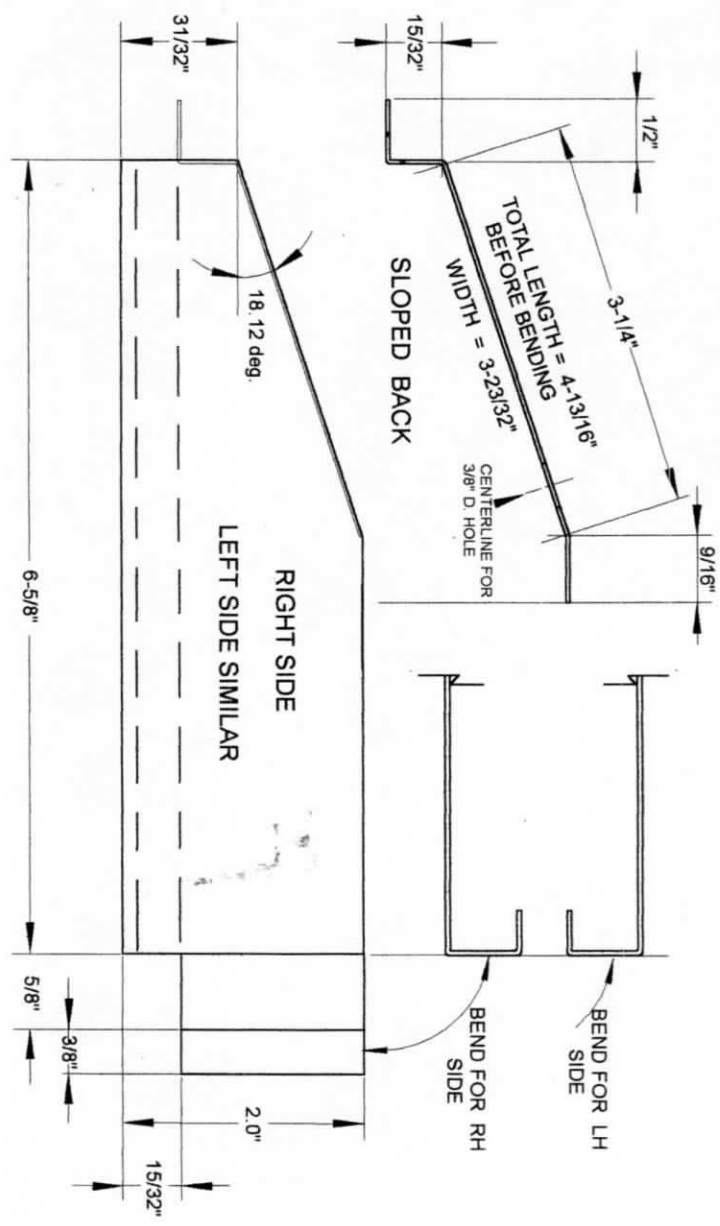

FIGURE 3
STEP 7: Make the sheet metal sides. The sheet metal sides are to be cut from 0.015" thick sheet brass. See figures 3 through 7 for layouts of the sheet metal parts. These drawings were made to scale on an 11" x 17" size sheet, and all parts are dimensioned. They also have a 6" long scale bar. You can either draw your own templates from the dimensions given, or the drawings can be increased in size, using a printer with this feature, until the final drawing measures 11" x 17", or until the scale bar measures exactly 6 inches. The drawings can then be used as a full scale template - two will be required for the sides -- one for the left side, one for the right side. Cut out the templates and line up the bottom edge of the template with the bottom edge of the brass sheet. This will eliminate one cut. Adhere template to the metal sheet with rubber cement so that it can be removed after cutting. If a 4" x 10" sheet is used, use a separate sheet for each tender side. The left-over portions can be used later for other miscellaneous small parts. After cutting remove the templates and mark location of the two front bends on what will be the inside surface. Make the front end bends as shown in **Figure 3** to produce the right hand side. Make these bends in the opposite direction to produce the left hand side.
STEP8: Make one sheet metal sloped back piece. Refer to **Figure 3** which shows a bending template for the sloped back. It is shown just above one of the sides where it will be located. Cut a rectangular piece of sheet brass 3-23/32" wide x 4-13/16" (expanded) length. Make sure all edges are cut straight and square. Lightly scribe lines along the inside of the 3-23/32" width where the three bends will be made. Make the 90 degree bend first, then make the upper and lower angle bends in several steps, checking the piece with the template until the proper shape is obtained. Also try it on the sides that are already assembled to the undercarriage to see that it fits as desired. Minor adjustments from the templates shape may be required to get the best fit. When in place, the 1/2" wide flat section at the very back of this piece will be mounted onto the rear end of the undercarriage floor. The rear edge of this flat section should fall even with the rear end edge of the undercarriage. When the proper fit is obtained, make two 5/32" diameter mounting holes 1/4" in from the rear edge and 3/4" in from each side.